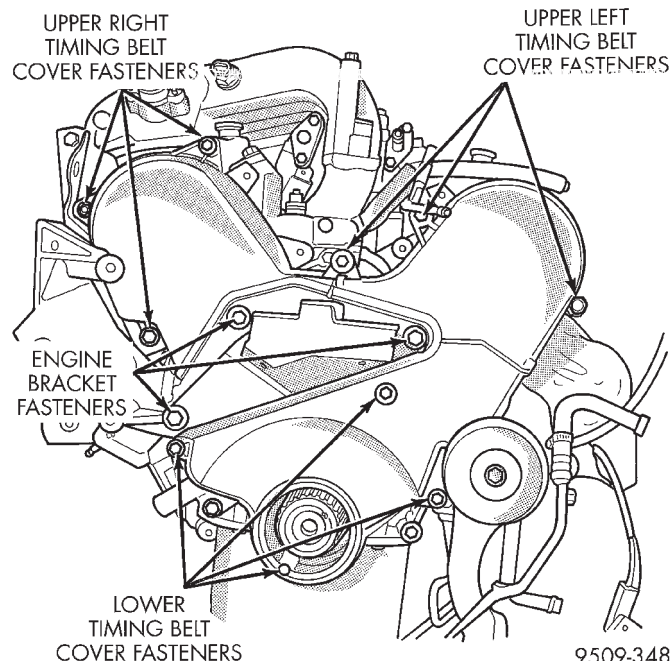

Fig. 104 Timing Belt Covers
(1) Remove the upper left timing belt cover (Fig. 104).
(2) Inspect both sides of the timing belt drive & back. Replace belt if any of the following conditions exist.